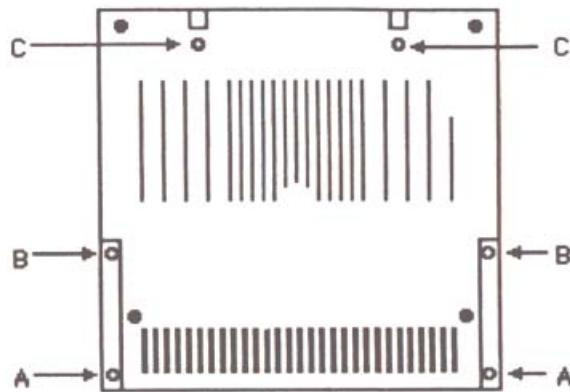

Figure 5: Apple IIc Case Bottom ( Showing screws ).
2. Turn the computer upside down and unscrew the two screws (marked 'A' in *Figure 5*) at the keyboard end corners.